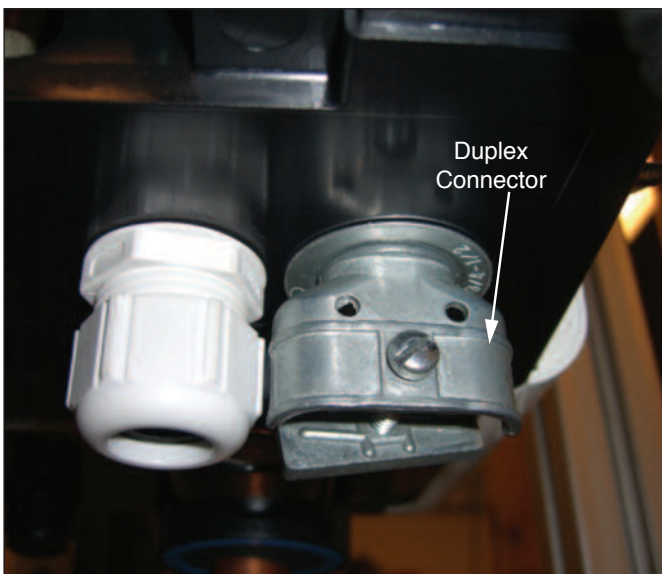

Fig. 5: Duplex Connector Installed
8. Remove one of the plastic strain reliefs on the bottom of the boiler and install the duplex connector in its place. Place one washer on the inside and outside of the boiler before installing the duplex connector. The duplex connector will allow the wiring from the domestic circulator to enter the boiler. See Fig. 5.